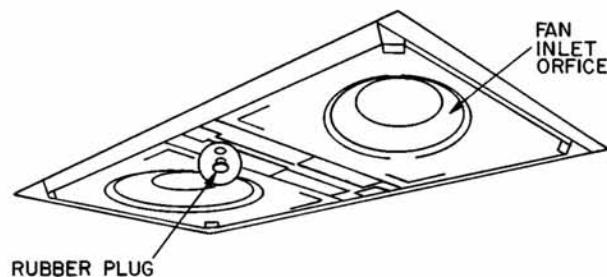

Fig. 20 — Drain Plug
2. Remove the air intake and distribution assembly. Remove the condensate water in the drain pan by pulling out the rubber drain plug (Fig. 20) and letting water drain into a 3-gallon bucket.
4. After cleaning, re-install the drain pan using the appropriate number of screws. Center and align the metal fan inlet orifice (Fig. 20) with the fan. Ensure the fan spins freely.